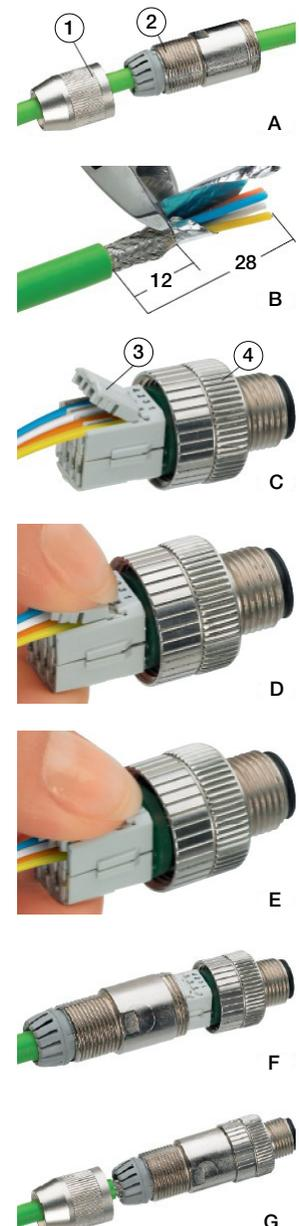

Figure 2-1. Cable Assembly
1. Slide the pressure nut (item 1) and the housing (item 2) over the cable (Figure 2-1-A).
2. Strip the cable sheath over a length of approximately 1" (28 mm). Trim the braided shield to a length of approximately 1/2" (12 mm) (Figure 2-1-B). See Table 2-1 for the core assignment.
3. Guide the individual cores fully into the marked chambers. Make sure to use the correct chambers and only one core per chamber (Figure 2-1-C).
4. Contact the cores by pressing the termination block (item 3) to the plug insert (item 4) according to views D and E (Figure 2-1-D and E). The termination block engages at the end stop.
5. Pull the housing (item 2) over the plug insert (item 4), hold the plug insert tight and screw the housing onto it (Figure 2-1-F).
6. Push pressure nut (item 1) on the housing. Tighten the pressure nut firmly (Figure 2-1-G).